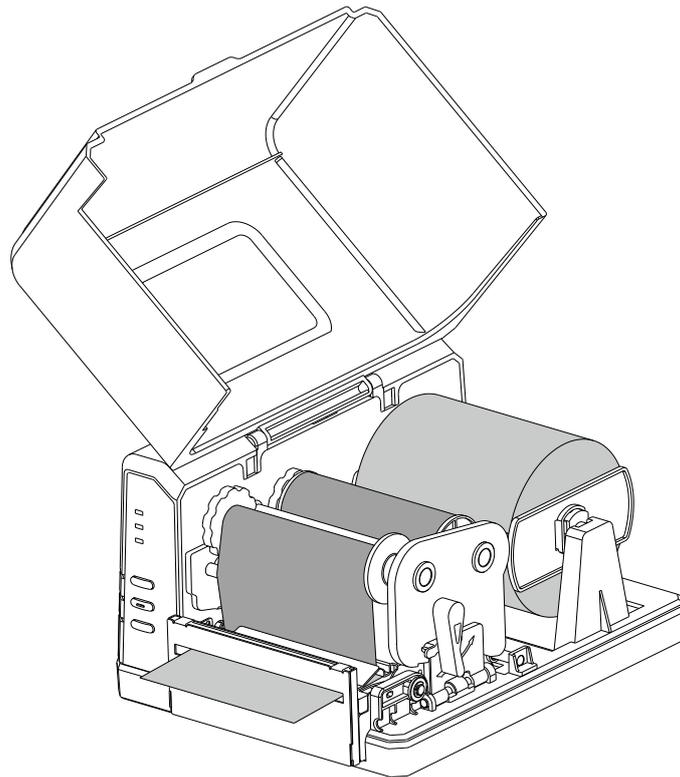

Figure 3-3 Cutter Mode
6. The cutting position and cutting frequency can be adjusted in Utility tool under Cutter Mode. See Figure 3-3.